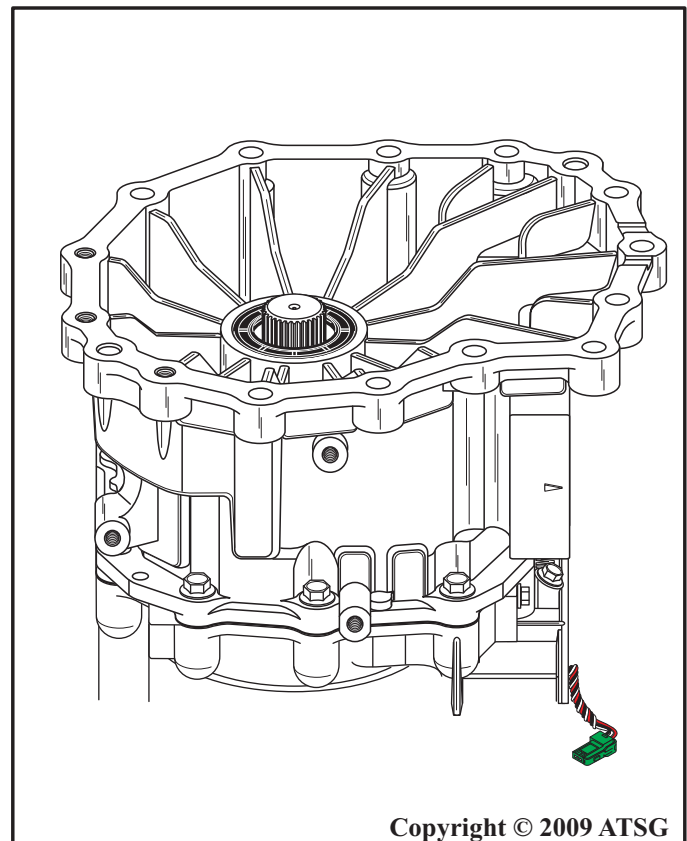

Figure 53
44. Turn the transmission over so that extension housing or 4WD adapter housing is facing up, as shown in Figure 53